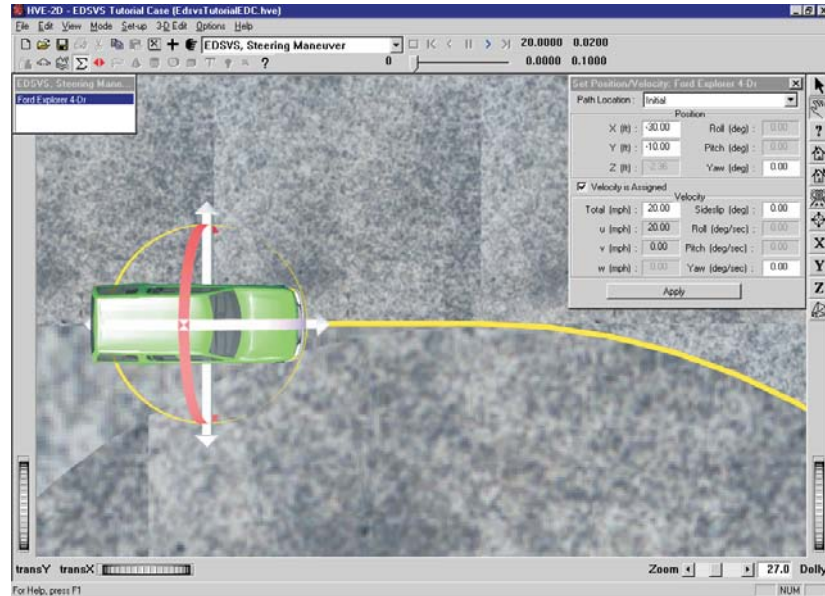

Figure 5-6 Vehicle positioning using the HVE-2D Event Editor. The manipulators can be used to *drag and drop* the vehicle into position.
- Click on the vehicle's X-Y manipulator (see Figure 5-6), wait for it to turn bright yellow (indicating it has been selected), and drag it to its initial position, X=-30 ft, Y=-10 ft. Click the yaw manipulator and rotate it to its heading angle, 0 degrees.
**NOTE:** To select the X-Y manipulator, the viewer must be in *Pick* mode, as indicated by the highlighted arrow in the upper right corner of the viewer (see Figure 5-6).